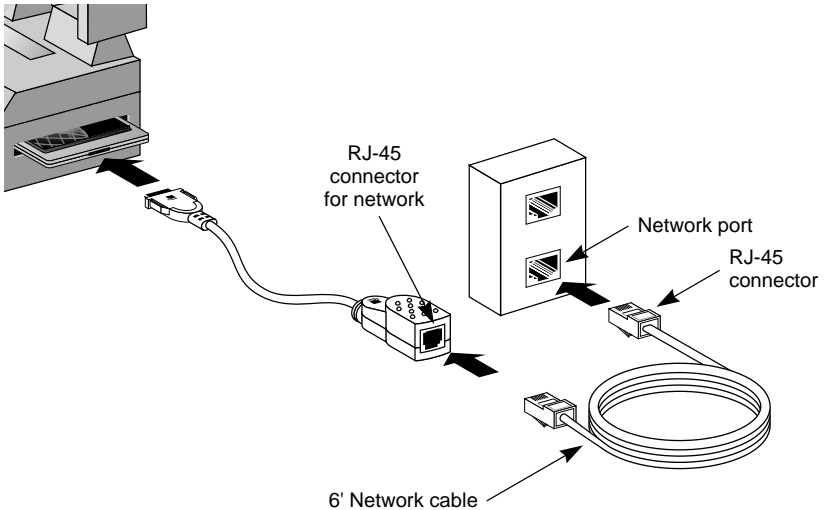

Figure 2-3 Connecting the 3C589C PC Card to the Network Using the 3C589C-TP Cable
- 1 Attach the supplied PC Card cable with the RJ-45 connector to the PC Card connector, as shown in Figure 2-3.
- 2 Attach the RJ-45 connector on the other end of the PC Card cable to the supplied network cable and then to the network port, as shown in Figure 2-3.